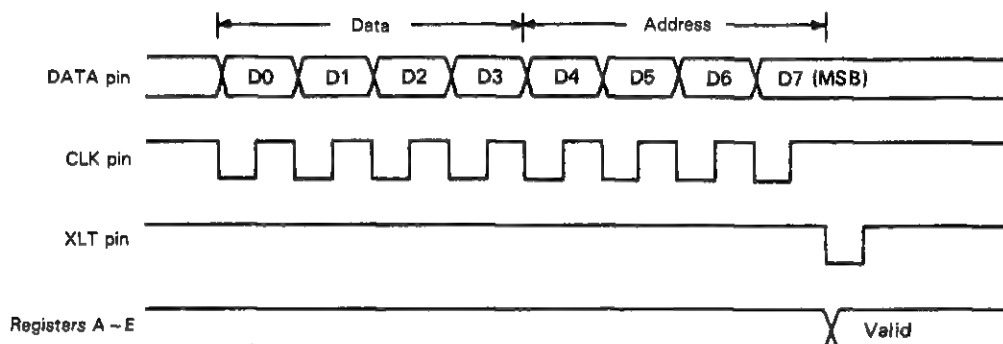

Fig. 7-2 Timing chart for data input
Each register may be set by input of 4-bit address, and 4-bit data from LSB in the timing that is shown in Fig. 7-2 at three pins, XLT, CLK and DATA. The address and data
- (3)  $PW \geq 64$  : Address (see note) is "E"; This signal is of LOW level when the pulse width after bottom hold is over 63, and is of HIGH level otherwise. It is used for detection of a drop in the speed of the spindle motor after braking and so on.
**Note:** Address setting is determined by the data corresponding to D4 to D7, which are input from the DATA pins shown in Fig. 7-2.